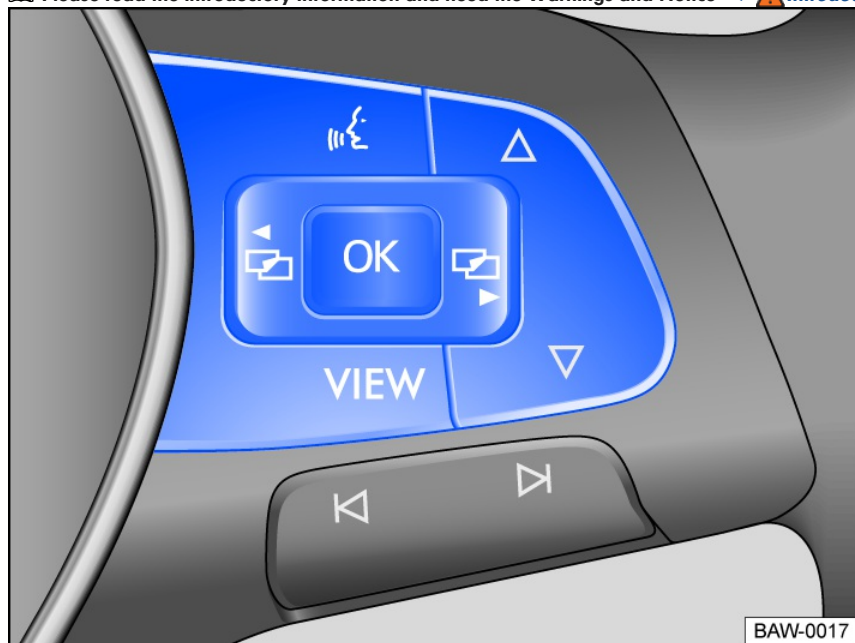

Fig. 17 Right side of the multi-function steering wheel: buttons for operating the menus and information displays in the instrument cluster
Menus cannot be accessed when a priority 1 warning message is displayed $\Rightarrow$ Warning and information texts. You can confirm and hide some warning messages using the **OK** button on the multi-function steering wheel fig. 17.
- If a message or vehicle icon is displayed, press the **OK** fig. 17 button, repeatedly if necessary.
- To display a menu and to scroll through the menu, press the or button fig. 17.
- To open the displayed menu or information display, press the **OK** button fig. 17 or wait until the menu or the information display opens automatically after several seconds.
- Press the or arrow buttons fig. 17 in the displayed menu until the desired menu item is marked. The item is marked with a frame around it.
- Press the **OK** fig. 17 button to apply the desired changes.
- Press the  or  button fig. 17.
- You can switch between the current and previous menu using the **VIEW** button fig. 17.
- You can use the **VIEW** button fig. 17 to switch between the classic display of dials, the large platform without information profiles, and the enhanced view with highlighted information profiles. The classic display shows the large dials on the right and left side, and the selected information profile is displayed in the center. Press and hold the **VIEW** button to select from the preset information profiles in the list: